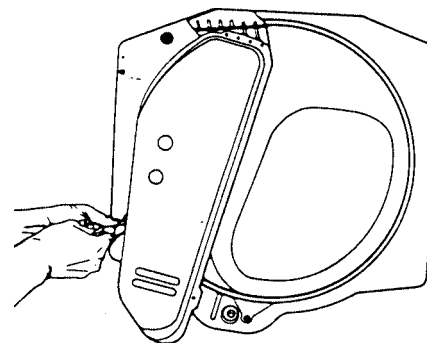

Fig. 35
1. Remove two screws attaching heat duct to rear bulkhead assembly. (Fig. 35) Remove heat duct.